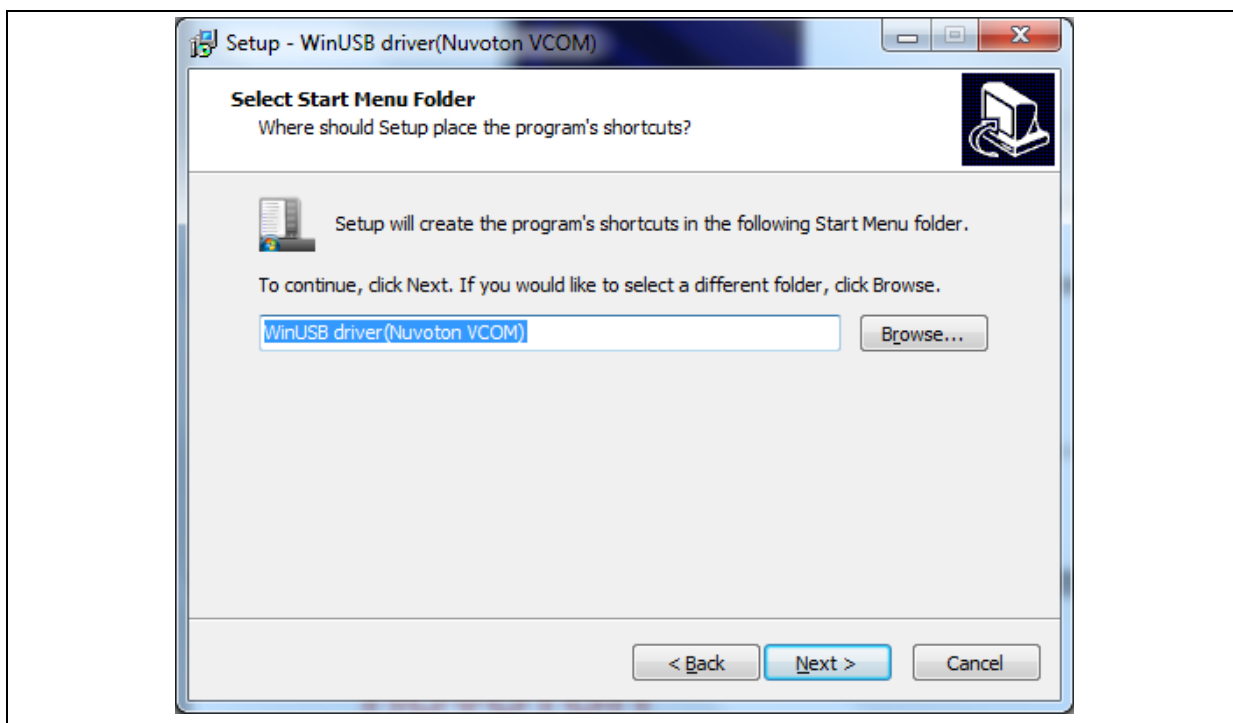

Figure 2-3 WinUSB4NuVCOM Driver Setup (3)
Step 3: Select the path the user wants to install or use the default path, and press "Next" after confirming (Figure 2-3).